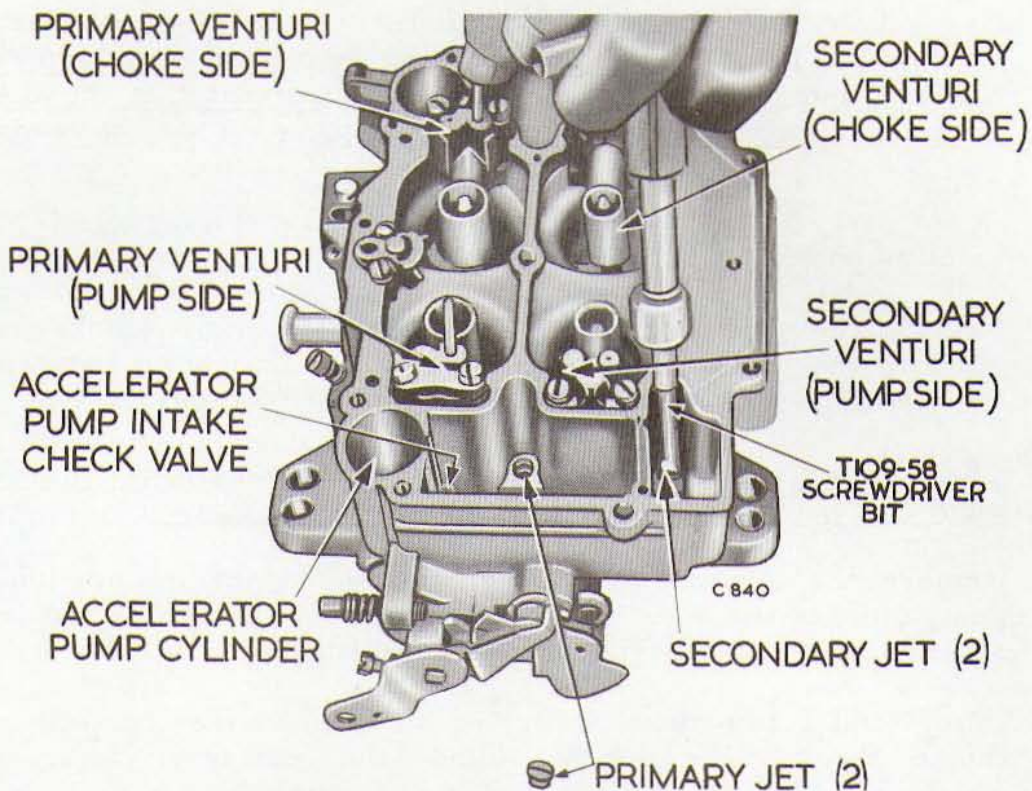
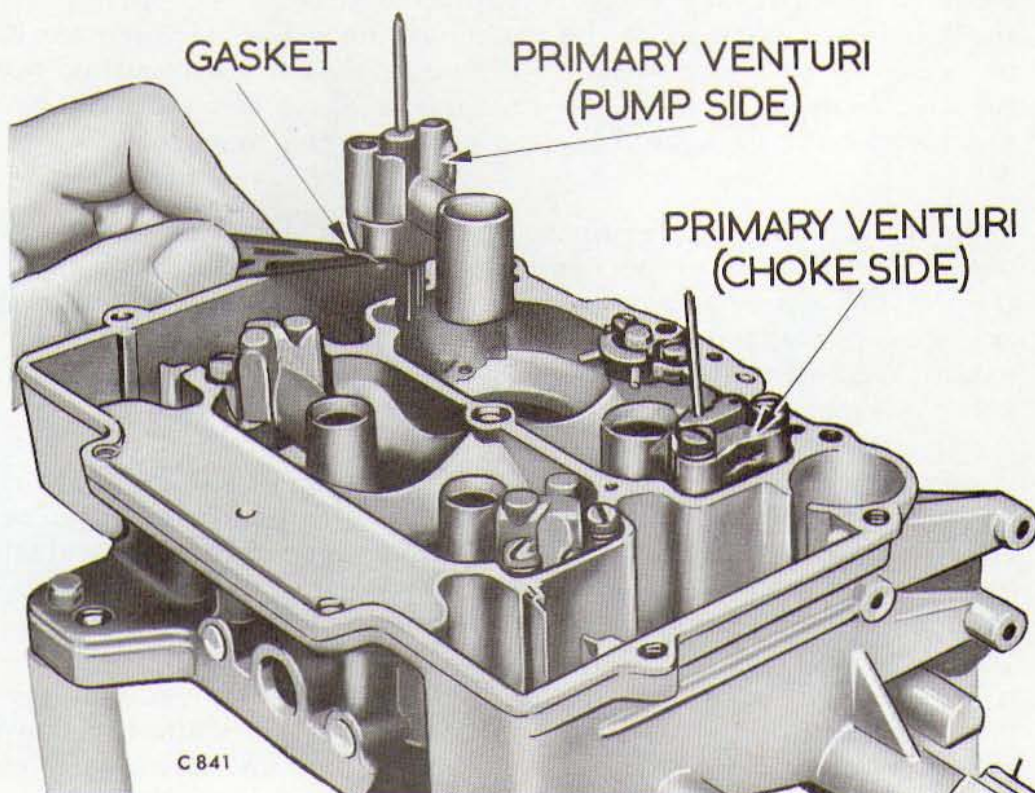

Fig. 11 Removing or Installing Main Metering Jets
Fig. 12 Removing or Installing Primary Venturi
- (2) Using Tool T.109-58 remove the main metering jets (primary side), as shown in Fig.11. The primary and secondary main metering jets are not interchangeable. It is very important that these jets are refitted in their respective locations in the main body at reassembly.
- (3) Again using Tool 109-58, remove the main metering jets (secondary side) as shown in Fig.11.
- (4) Remove the screws that attach the primary venturi (choke and pump side) to the main body. Lift the venturi straight up and away from the main body, as shown in Fig.12. Discard the gaskets.
- (6) Using Tool T.109-59, screwdriver bit, remove the accelerator pump intake check valve, located inside the fuel bowl, adjacent to the accelerator pump cylinder. Refer to Fig.11.
- (7) Remove the two idle mixture adjusting screws and springs from the throttle body portion of the main casting. The carburettor has now been dismantled into two units, namely, the air horn and the main and throttle body casting. The component parts of each have been dismantled as far as necessary for cleaning and inspection.
- (5) Place new primary venturi gaskets in position, then refit the primary venturi (pump and choke side) by lowering straight down on the gaskets. Refer to Fig.12. Fit attaching screws and tighten securely.
- (6) Install the primary and secondary main metering jets using Tool T.109-58. Tighten jets securely.
- (7) Invert the carburettor and install the accelerator pump intake check ball. Install seat and tighten securely, using Tool T.109-59 (Refer to Fig.11.). Fit screw plug and tighten securely.